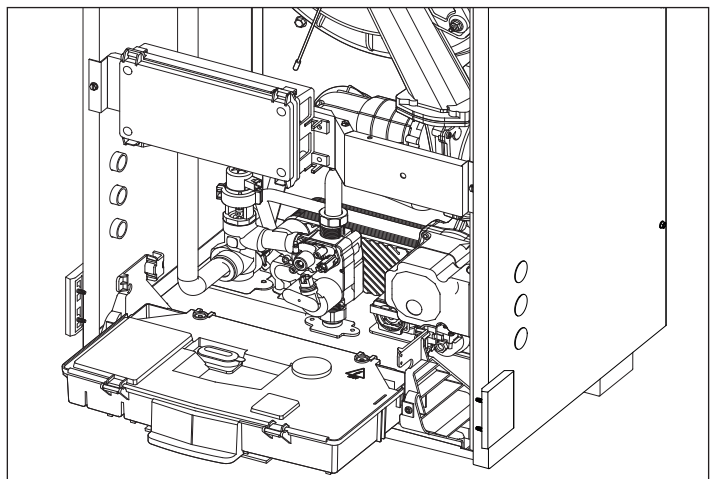

Figure 49 - Disconnecting the Two Clips
6. Connect the field wiring to the respective output; see Figure 49.
5. Disconnect the two clips See Figure 49.